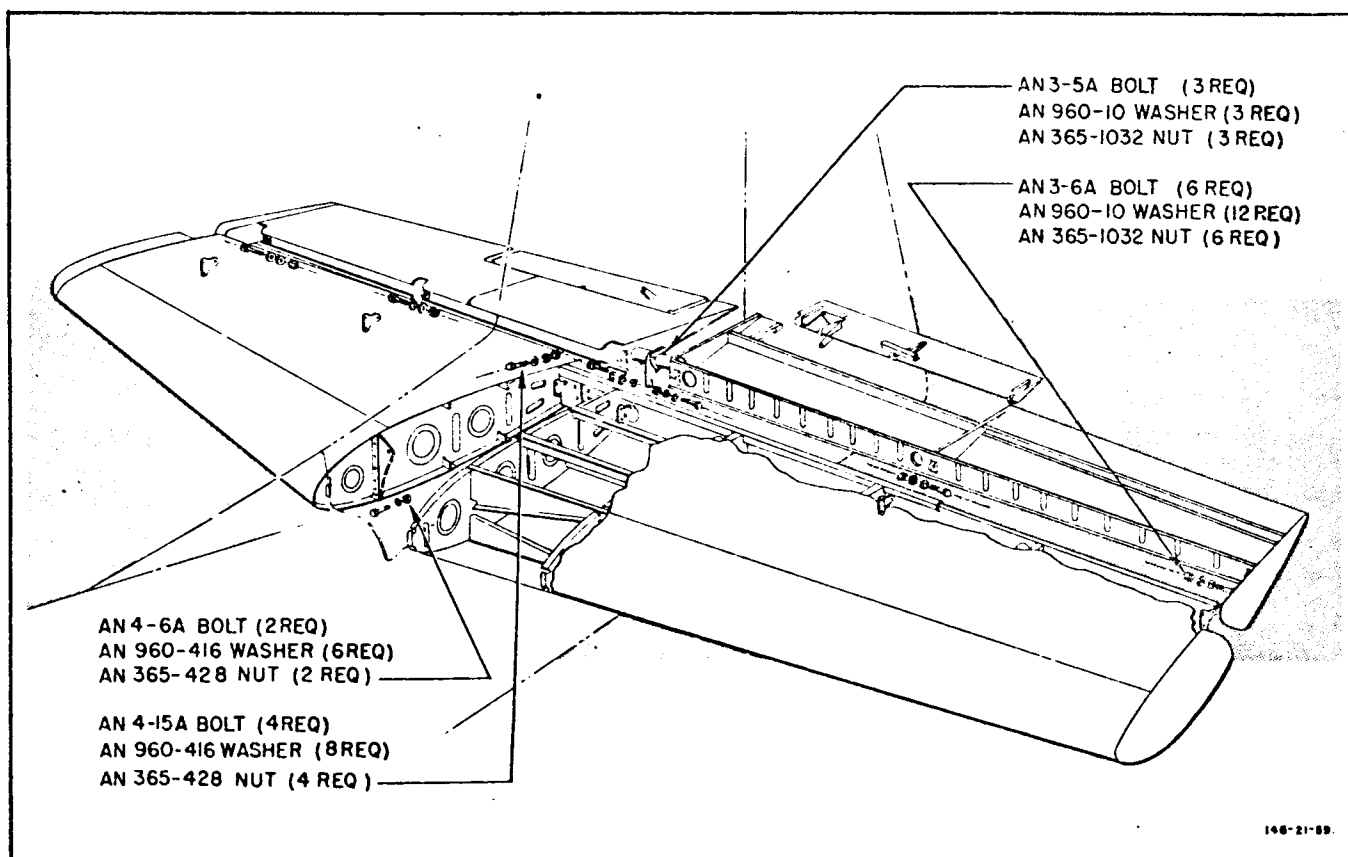

Figure 15 - HORIZONTAL STABILIZER AND ELEVATOR INSTALLATION
**Installing and Removing Horizontal Stabilizer with Fairing**—The parts necessary to attach or detach the horizontal stabilizer are shown in figure 15.
**Installing and Removing Elevators**—The parts necessary to attach or detach the elevators are shown in figure 15.